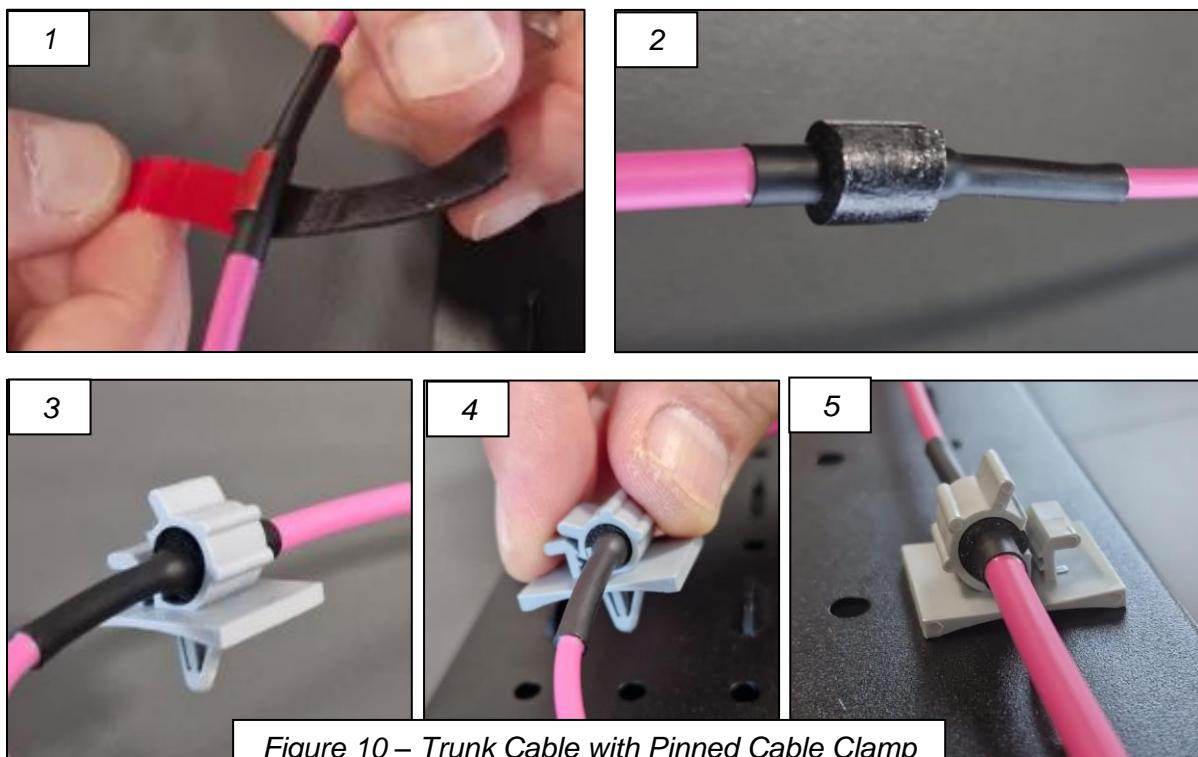

Figure 10 – Trunk Cable with Pinned Cable Clamp
Step 1: Open cable clamp provided inside the reel or plastic bag, wrap the adhesive tape around the trunk cable (breakout area) and place each trunk cable into the clamp (Figure 10).